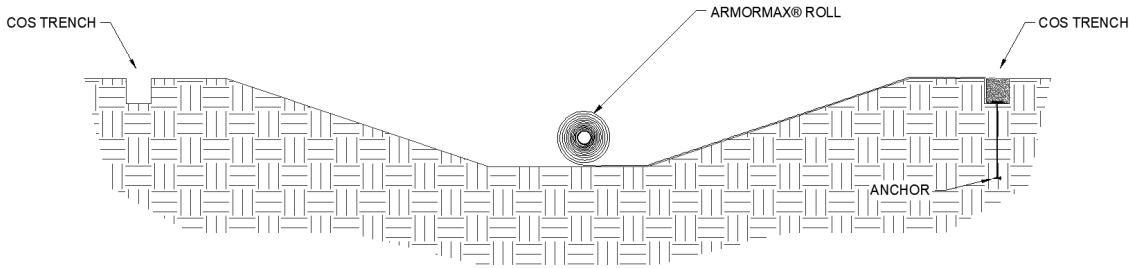

Figure 9: Perpendicular Placement of PROPEX Armormax across Channel
9. Unroll the **PROPEX** Armormax roll on the channel surface in the area to be armored. (Figure 9) Ensure that the material has intimate contact with the ground and all irregular surfaces beneath it are removed.